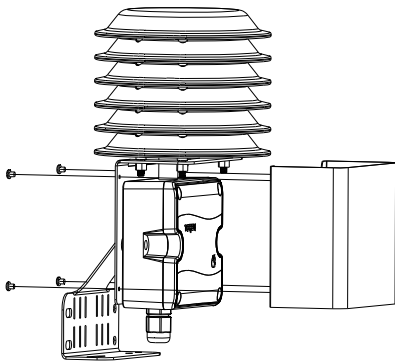

Fig.1
1. As shown in Fig. 1, remove the four screws on the back to open the U-shape cover, complete the wiring of the transmitter, and then install the cover;